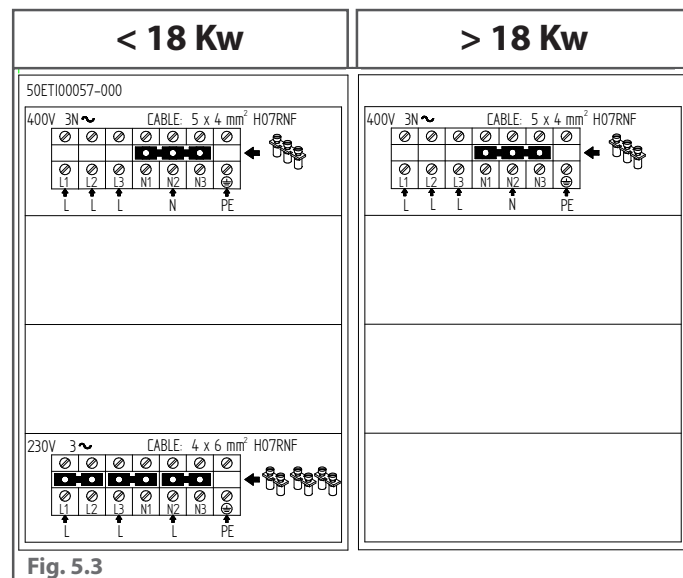

Fig. 5.3
► Fig. 5.3
- 2 Loosen the cable gland and insert the power cable through it. The label on the side always indicates the type of cable to use and the cross section. This depends on the appliance voltage and power consumption (e.g. cable: 4x6 mm² H07RNF, see ► Fig. 5.3).
The cable must only be replaced with an identical one: the ratings plate always indicates the type of cable to be used and its cross section (e.g. cable: 4x6 mm² H07RNF, see ► Fig. 5.3). The earthing cable must always be yellow and green.